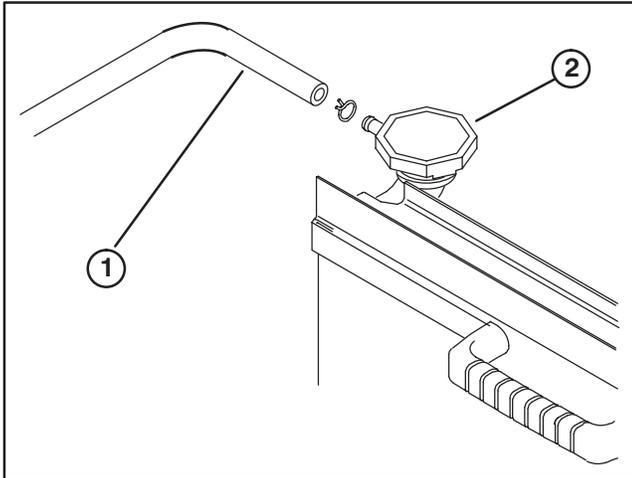

Figure 2
6. Loosen hose clamp securing overflow tube to radiator and slide tube off radiator opening (Fig. 2). Plug overflow tube to prevent fluid from escaping.